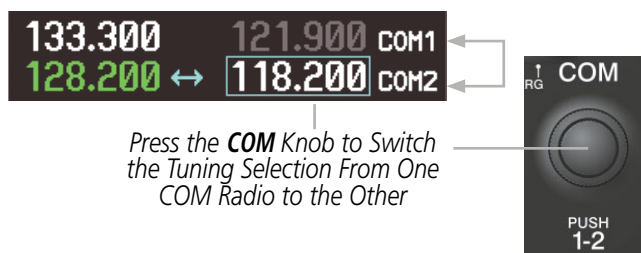
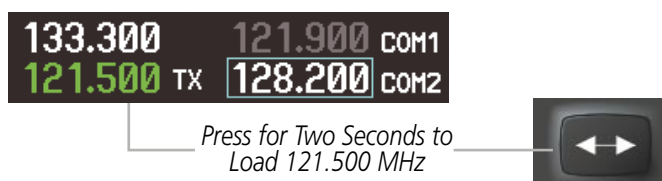

Figure 4-9 Switching COM Tuning Boxes
Figure 4-10 Quickly Tuning 121.500 MHz
- 1) Press the **MENU** Key (Figure 4-9) to display the page menu (Figure 4-10).